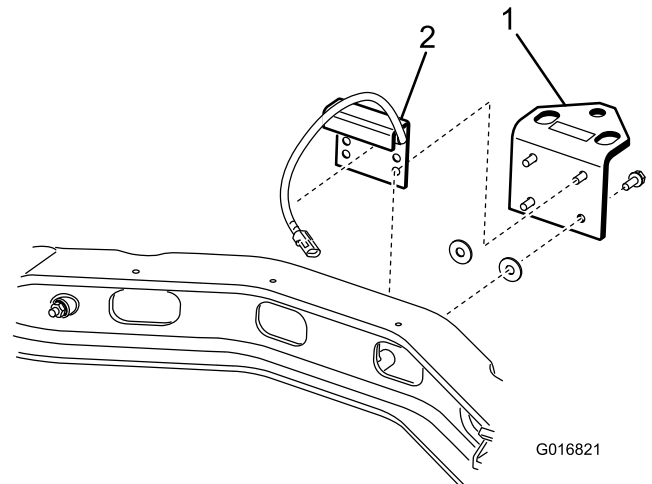

Figure 13
1. Remove the capscrews securing the hitch plate to the rear axle (Figure 13).